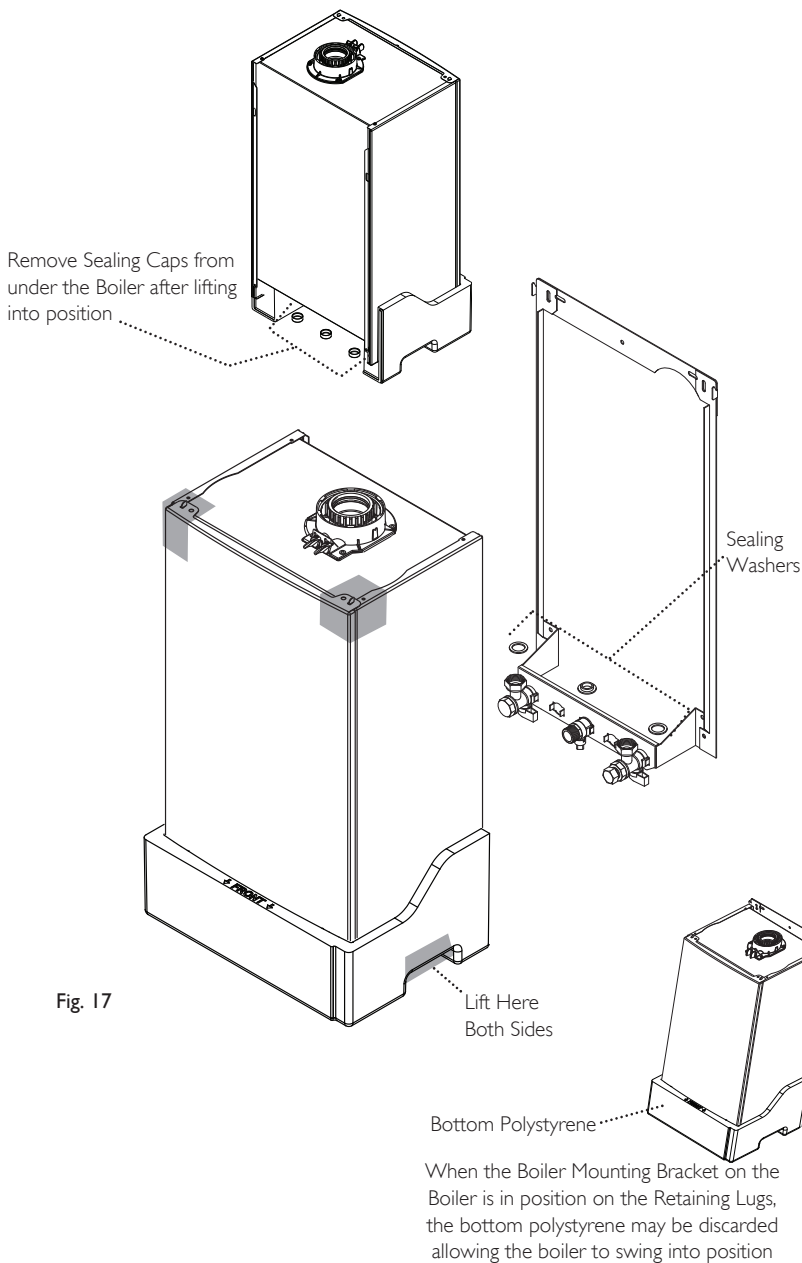

Fig. 17
### 9.4 Fitting The Boiler (Fig. 17)
1. Lift the boiler using the Lifting Points as shown by the shaded areas (Fig. 17). The boiler should be lifted by TWO PEOPLE. Engage the slots at the top rear of the boiler on the wall plate (Fig. 17) (see **Safe Manual Handling** page 5).